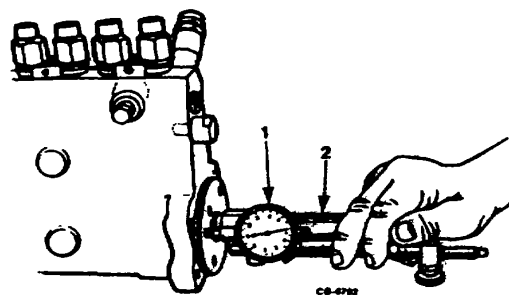

Figure 5. Checking Camshaft End Play
16. To check camshaft end play, screw SE-2343 holder tool onto front end of camshaft (Figure 5). Place SE-1848 dial indicator set in holder so indicator will read end play when tool handle is pulled and released. End play is .02 - .06 mm (.0008" - .0024"). Change end play by adding or removing shims behind front bearing.